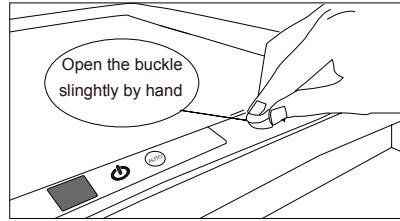

Fig.33
1) Open the grill of the unit (TB03)(as Fig.33~35).